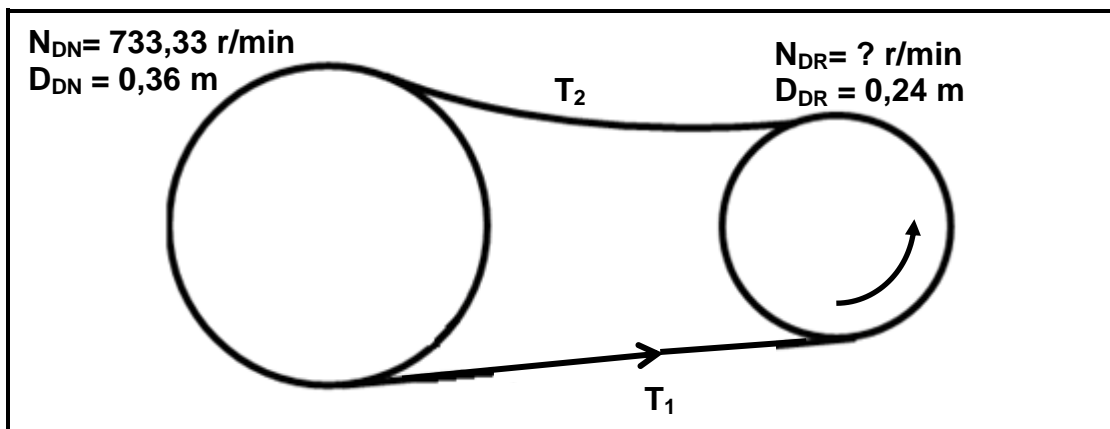

FIGURE 9.2
- 9.2 FIGURE 9.2 below shows a belt drive system. The pulley, with a diameter of 0,24 m, drives the driven pulley with a diameter of 0,36 m. The driven pulley rotates at 733,33 r/min. $T_1 = 360$ N and $T_2 = 90$ N.